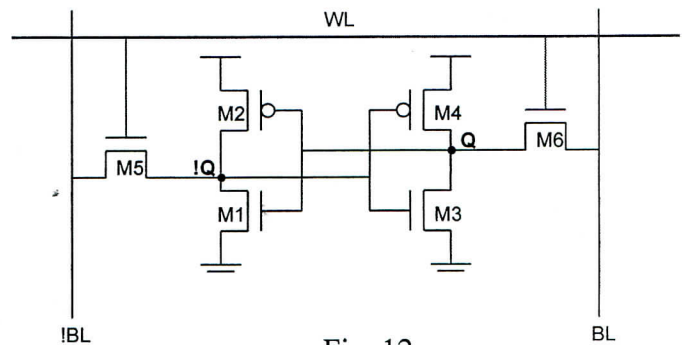

Fig. 12
12. Consider the 6T SRAM cell in Fig. 12. (5%)